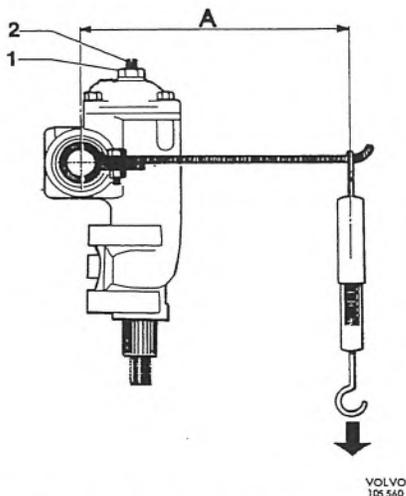

Fig. 6-48. Checking take-up between worm and roller
8. Place the steering worm shaft in the middle position. Screw in the adjusting screw so far as to notice resistance when rotating the shaft forwards and backwards over the middle position. Fit a spring balance at a distance of 210 mm (8 1/2") from the shaft centre. The spring balance can suitably be attached to a swing iron mounted on the steering worm shaft, see Fig. 6-48.